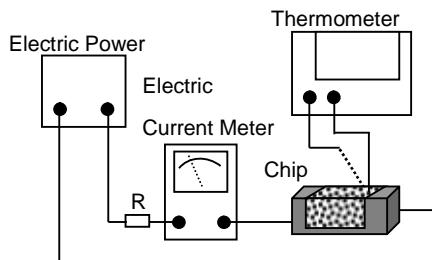

Fig. 5.3.3-1
d. Definition of Rated Current ( $I_r$ ):  $I_r$  is direct electric current as chip surface temperature raises just  $20^\circ\text{C}$ . against chip initial surface temperature( $T_a$ ). (see **Fig. 5.3.3-2**):